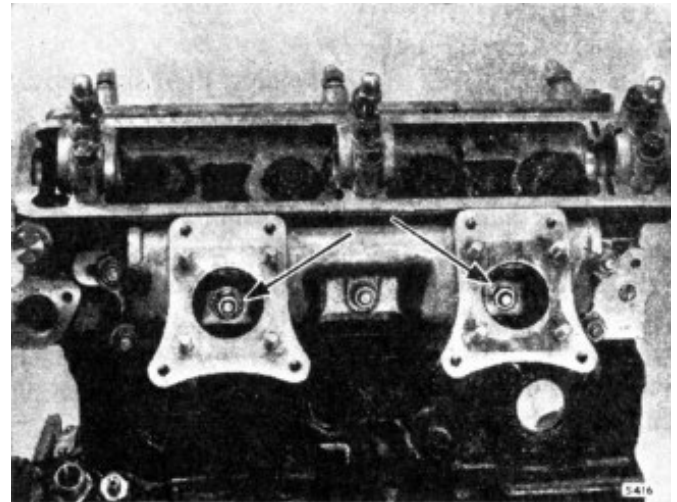

Fig. A.1
**Do not attempt to remove the carburetters and induction manifold as an assembly. The induction manifold is secured by two studs inside the intakes and cannot be released until the carburetters are removed (Fig. A.1).**
Seven studs secure the inlet manifold to the cylinder head. Remove the nuts, spring washers, and flat washers, noting that two studs pass through the manifold, the nuts being located inside the intakes (see Fig. A.1).